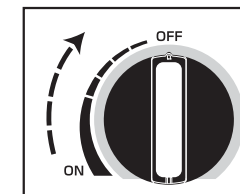

Fig 9
- Turn the ignition knob to OFF position (Fig. 9).